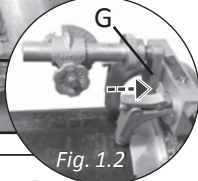

Fig. 1.2
1. Slide Mounting Frame (G, Fig. 1.2) into Crawler Donut (x).